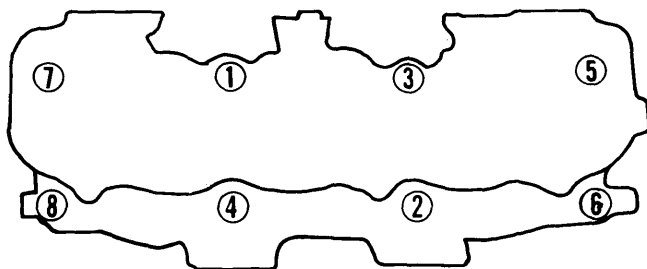

Fig. 2 Cylinder Head Tightening Sequence
**Installation** — Turn camshaft and crankshaft as necessary to align timing marks. See Fig. 2. Install camshaft gear. Install crankshaft gear keyway up. Recheck timing marks to make sure they are still aligned.